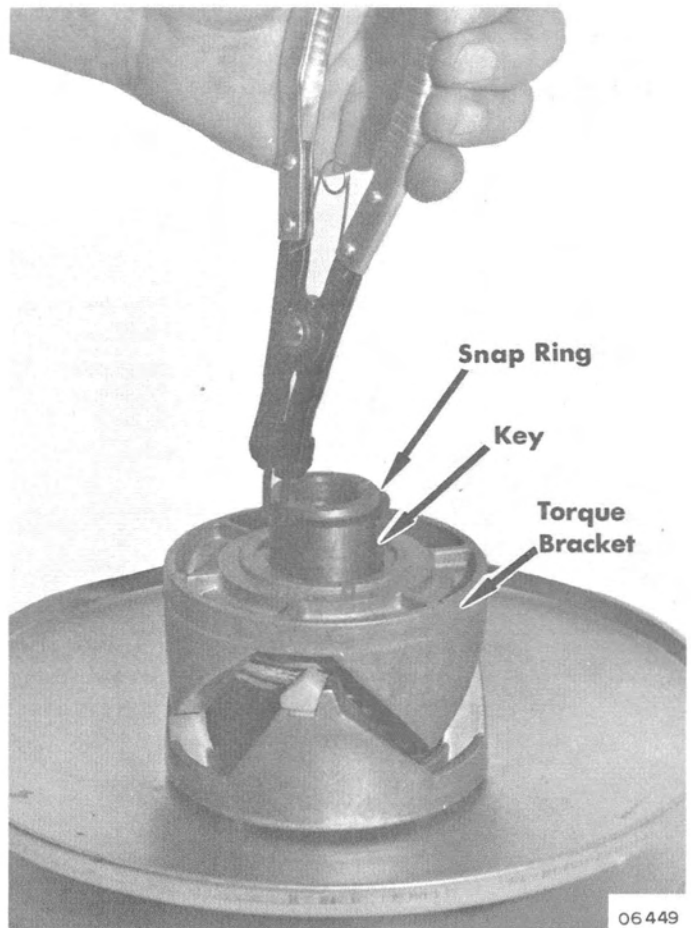

Figure 4. Locking Torque Bracket under Key
8. Press down torque bracket with heels of hands to clear key and turn torque bracket so that keyway does not line up with key. (Figure 4)
6. Turn sliding half  $1/3$ -turn ( $120^\circ$ ), or one ramp, to apply tension to spring. Press torque bracket below key and rotate bracket so that key and keyway do not line up. (Figure 4)